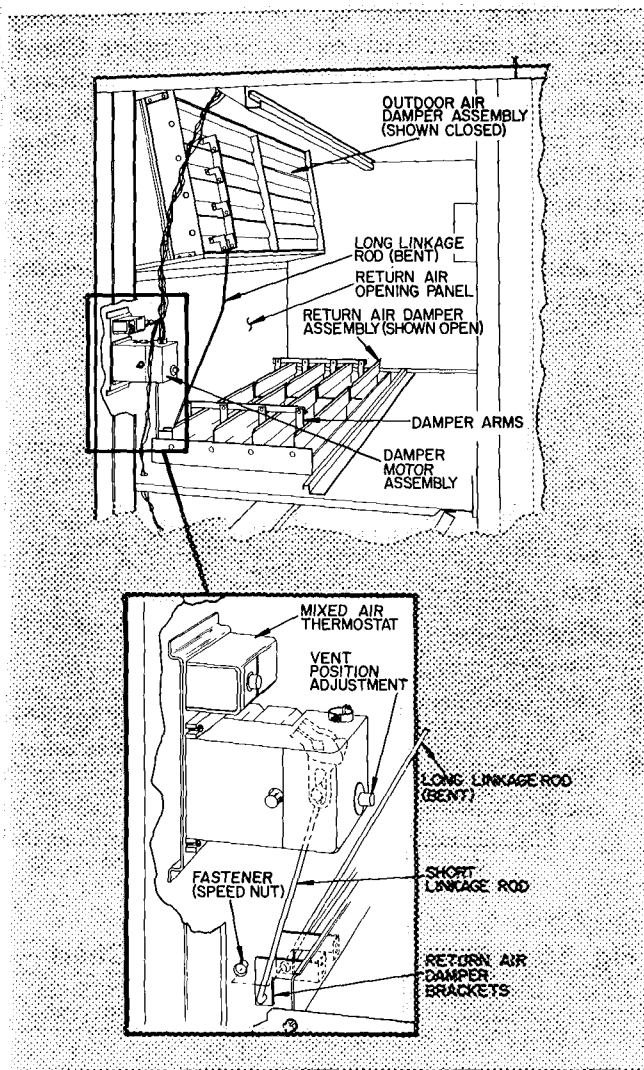

Fig. 12 — Economizer Damper Details
5. Adjust mechanical linkage if necessary, for correct positioning (Fig. 12). If enthalpy control terminals were jumped and plug-in control relay was removed from unit control box in step 1, remove jumper and replace plug-in control relay after positioning dampers. If cooling mode was simulated as described in step 2, be sure to remove jumper and reconnect thermostat wires to Y1 and Y2.